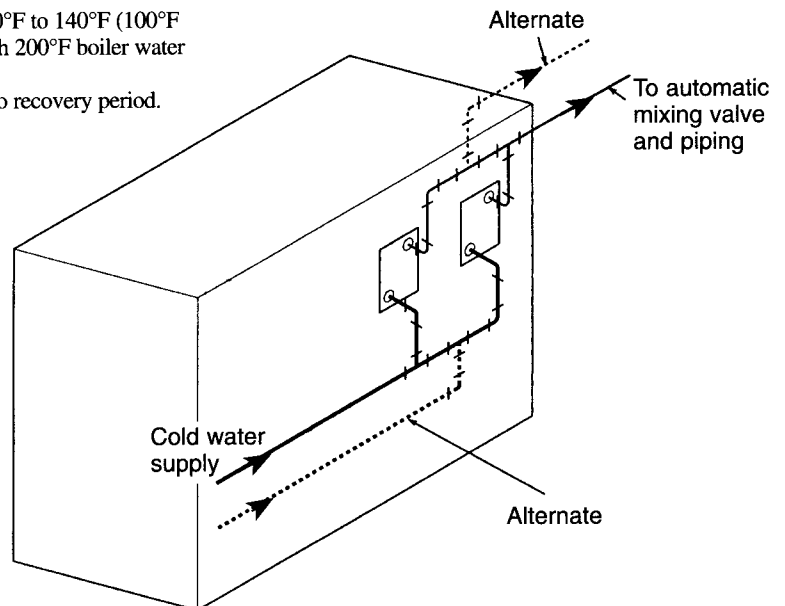

Figure 20 Tankless Heater Piping
2. Automatic mixing valve must be installed. See Figure 20. Follow manufacturer's instructions to install.
5. Multiple tankless heaters (see Figure 20):